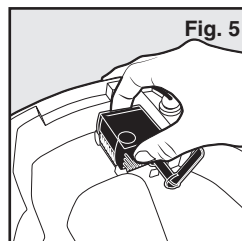

Fig. 5
5. Remove the pump from its cavity by placing your index finger behind pump and gripping the bottom with your thumb (Fig. 5).